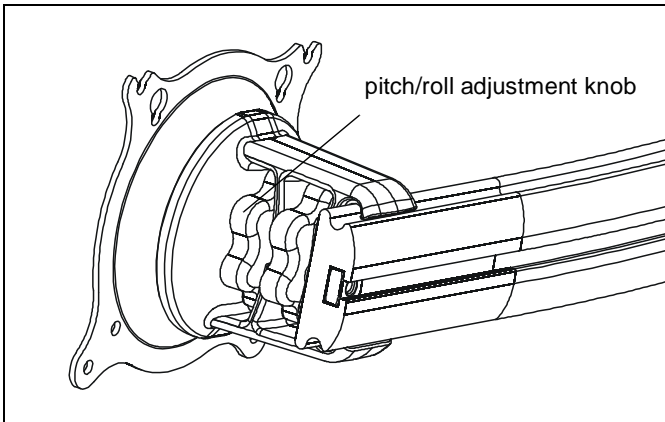

Figure 12
1. Loosen Centris bracket front adjustment knob. (See Figure 12)